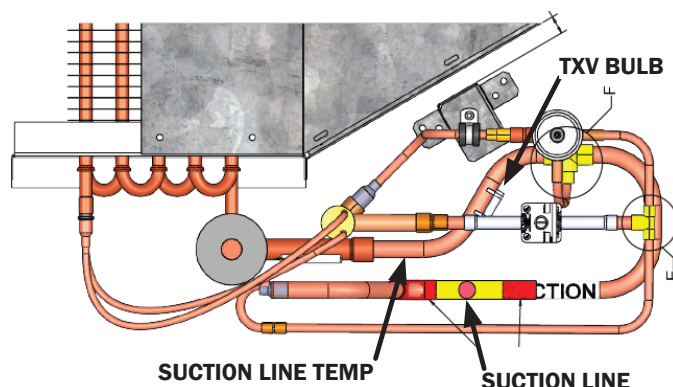

Fig. 104 Obtain pressure/temperature readings from these points
1. Obtain the suction pressure from the access port. Obtain the suction line temperature from the area near the TXV bulb at the outlet of the evaporator coil (Fig. 104).